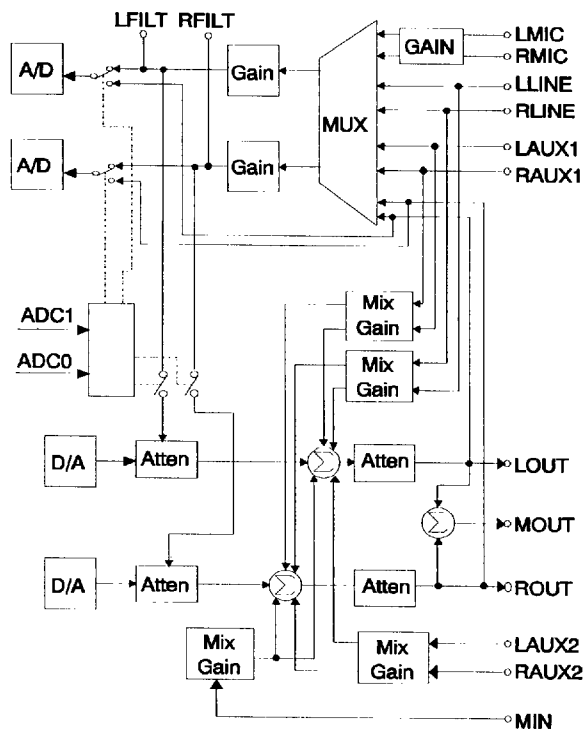

Figure 6. MODE 2 Mixer Addition
**ADC1,0** These two bits are used to control an additional A/D mux and enable for an analog loopback path. These two mixing paths provide Karaoke support. These bits are provided for backwards compatibility. New software should use the MIC volume control in MODE 3 registers X2/X3 to support MIC mix to the output mixer. See Figure 6.